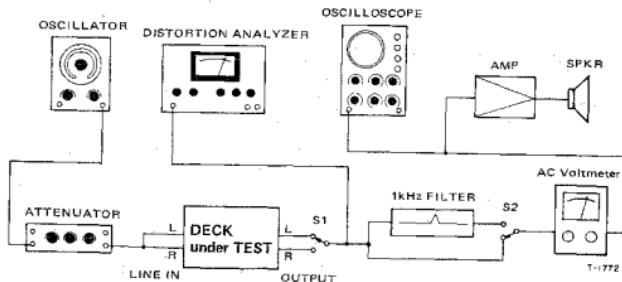

Fig. 5-1 Basic test setup
8. Erase efficiency	<ul style="list-style-type: none"> Connection is same as in Fig. 5-1, but engage 1-kHz filter. Record a 1-kHz signal. Rewind tape to midpoint of recorded portion. Record a "no-signal" portion. Find the difference between the 1-kHz portion and the "no-signal" portion.
19. REC MUTE function	<ul style="list-style-type: none"> Connection: Fig. 5-1, but engage 1-kHz filter. Record a 1-kHz signal. Push REC MUTE button for several seconds. Rewind and play the tape. Find the difference between the 1-kHz portion and the "no-signal" portion.
20. Channel separation	<ul style="list-style-type: none"> Connection: Fig. 5-1, but do not connect LINE IN (R), and engage 1-kHz filter. Set the deck to record mode. Find the difference between the 1-kHz recorded portion (L-ch) and the "no signal" portion (R-ch).
21. Adjacent track crosstalk	<ul style="list-style-type: none"> Connection: Fig. 5-1, but do not connect LINE IN (L) and OUTPUT (L). Record a 125-Hz signal on R-ch and note output level. Invert tape and play R-ch track. Check leakage level against the output reference of previously recorded portion.